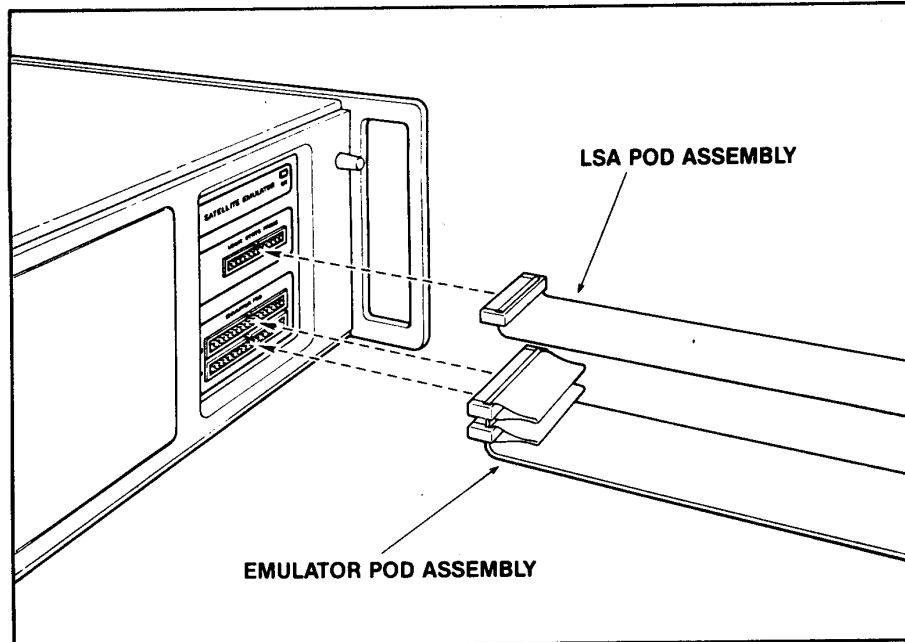

Figure 2-5.
3. Connect the emulator pod assembly to the mainframe as shown in Figure 2-5.